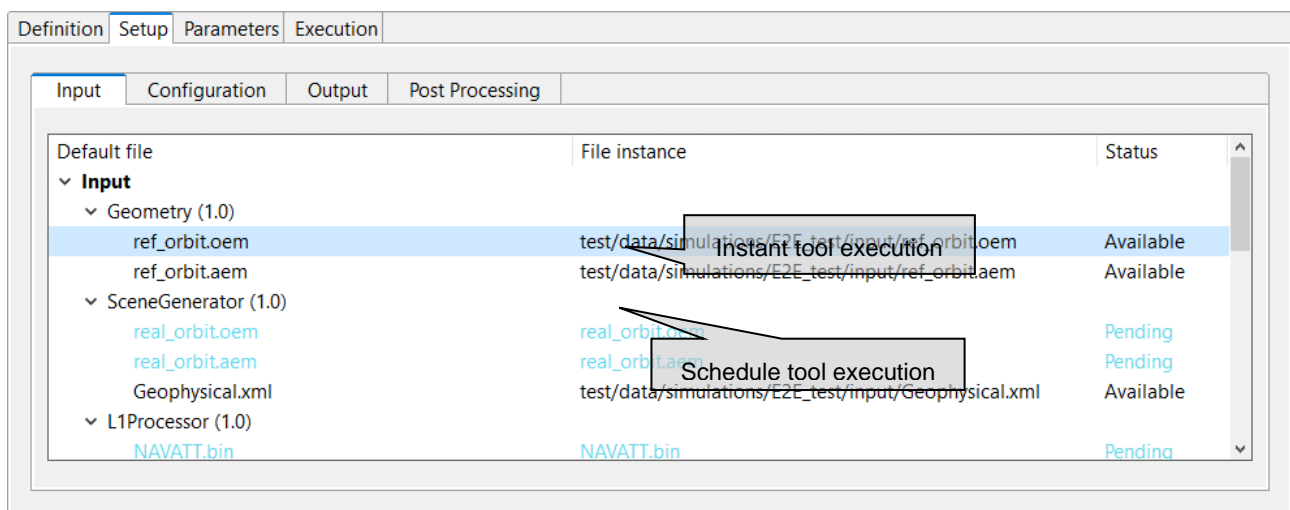

Figure 4-61: Tool Execution/Schedule from Simulation Edition View
- Tool execution from the simulation edit view and execution results view (see Figure 4-61). The execution view is the same as the simulation view with two particularities, 'Results' tab is enabled and the status is completed (successfully or not). Note that in the execution view the status of the output files is shown as *Available* if the simulation chain has been successfully executed while in the simulation editing the status is shown as *Pending* (see Section 4.3.3.6.2).